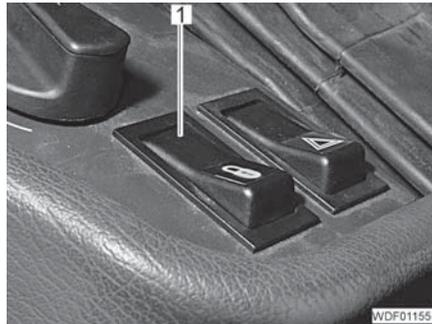

Fig. 440 Switch
- Carefully pull out the switch (Fig. 440,1).
- Carefully push in the switch (Fig. 440,1).